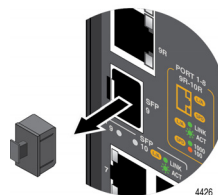

Figure 21. Remove the Dust Plug from an SFP Slot
1. Remove the dust plug from a transceiver slot. Figure 21 shows the dust plug removed from slot 9.